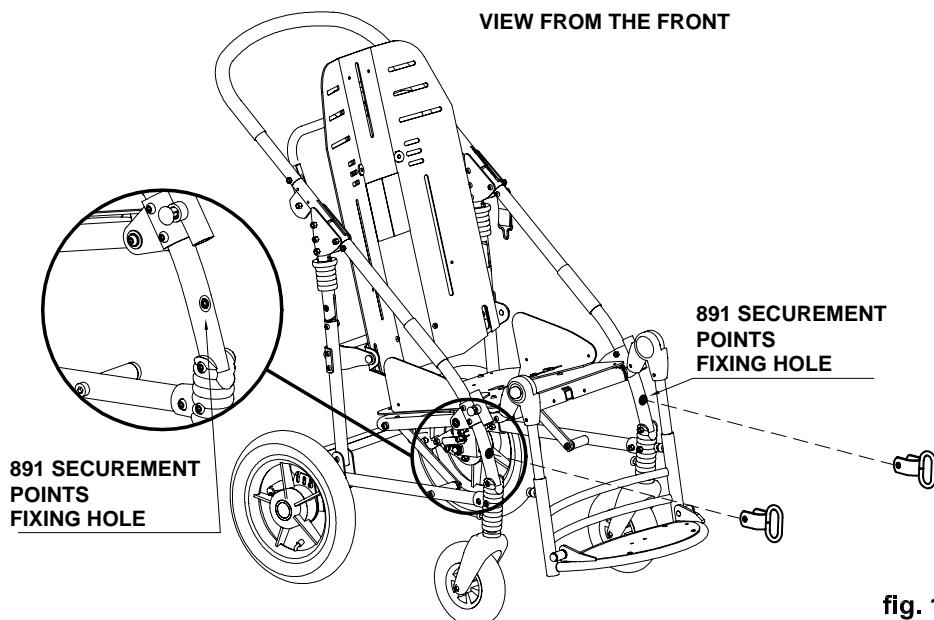
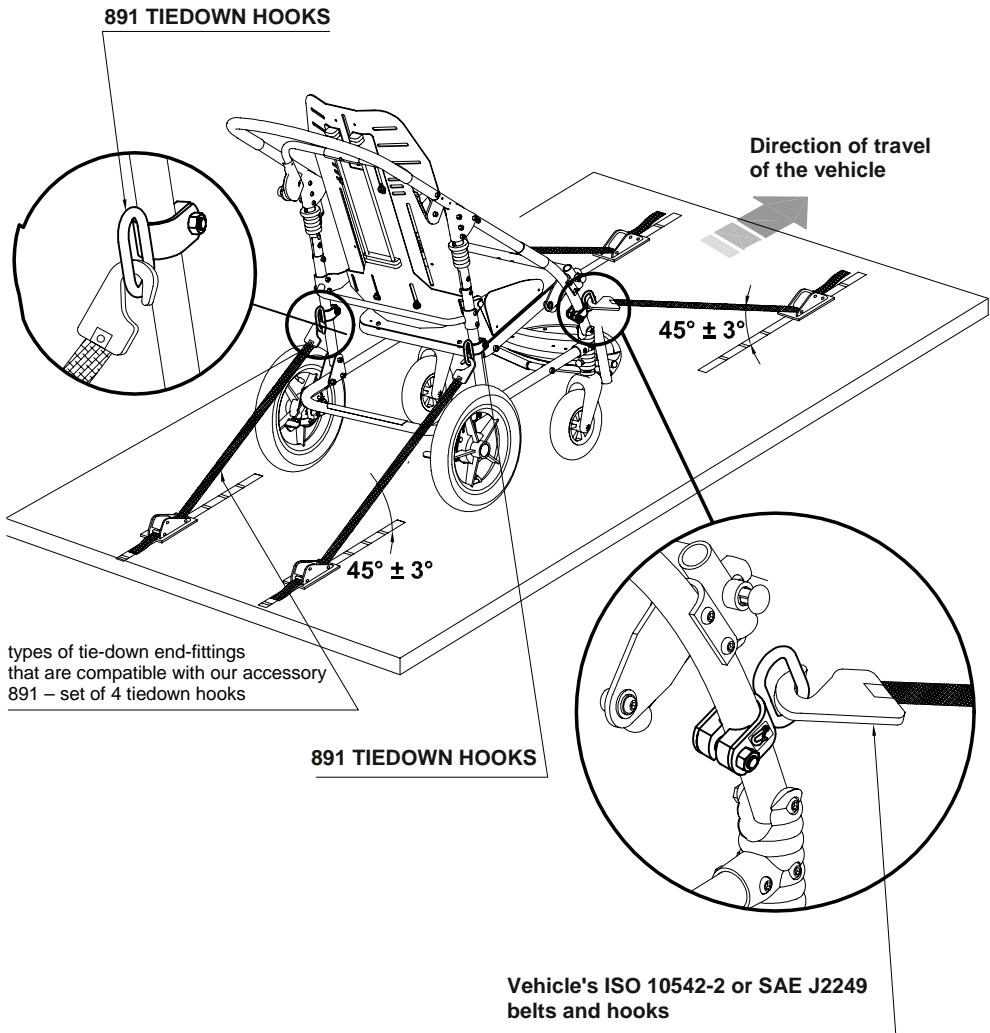

fig. 1
Fig. 4
- **THE STROLLER-SEATED OCCUPANT MUST FACE THE FRONT OF THE VEHICLE** (see fig. 4, page 12). According to the ISO 7176-19 point 6.3.4, compliance with ISO 7176-19 does not preclude using the pushchair facing rearward in large accessible vehicles equipped and approved with rear-facing wheelchair passenger stations
- **THE VEHICLE MUST BE SUITABLE FOR TRANSPORTING ORTHOPAEDIC WHEELCHAIRS/STROLLERS IN CONFORMITY WITH STANDARD ANSI/RESNA WC/Vol.1 Section 19** (see fig. 4, page 12)
- **THE STROLLER MUST BE ANCHORED TO THE MOTOR VEHICLE WITH THE BACKREST AND THE LEGREST IN THE UPRIGHT POSITION** by: 1) a four-point strap-type tiedown system that complies with either SAE J2249 or ISO 10542-2, supplied by the vehicle and 2) our accessory 891 - set of 4 tie-down hooks (see fig. 1 and 2, page 10; fig. 3, page 11 and fig. 4, page 12)